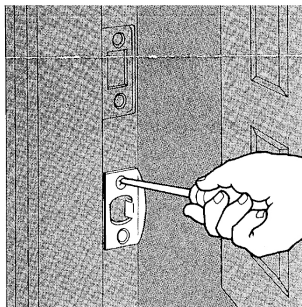

Figure 1F-1
1. Place strike plate in the strike mortise position of the frame with the curved portion of the strike plate facing the interior. Insert screws [(2) #4 x 3/8" self tapping machine screws] in the holes to attach the strike plate to the frame (Figure 1F-1).